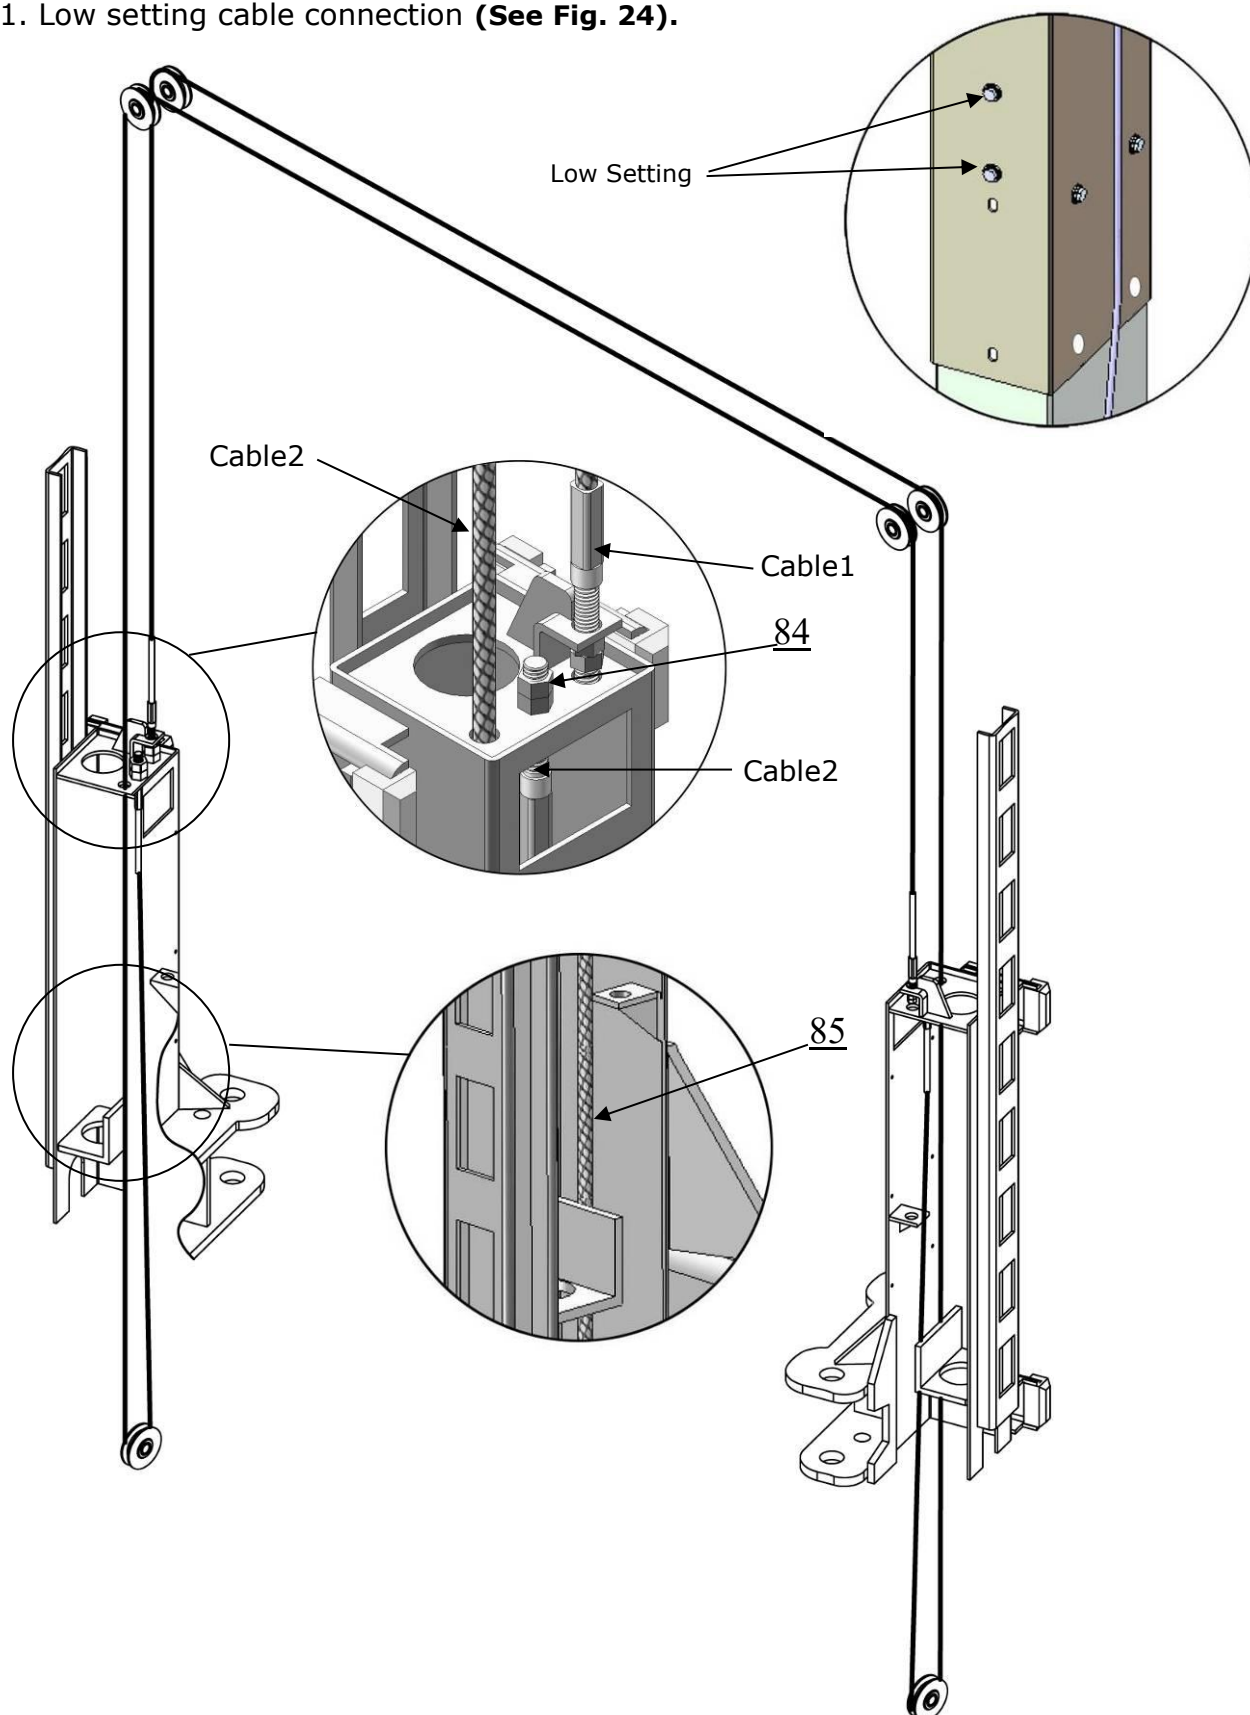

Fig. 24
1. Low setting cable connection (See Fig. 24).